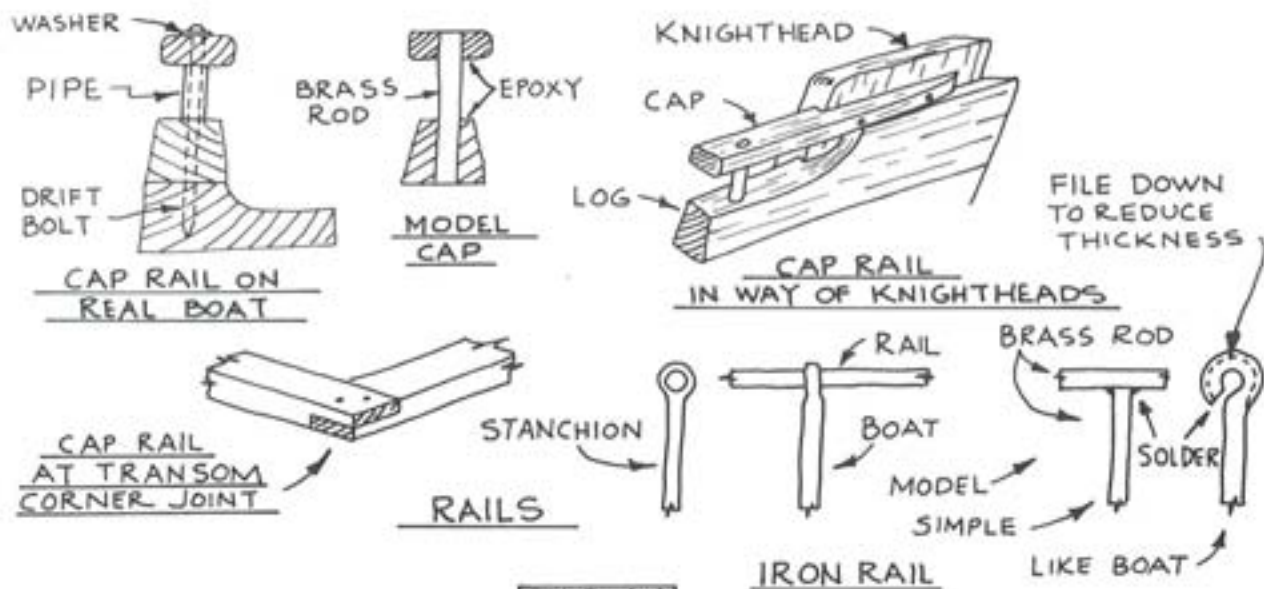

FIG41
**Cap rail and iron rail** — The cap rail can be installed now. The real boat uses iron pipes for cap rail stanchions through which a drift bolt is driven. For the model, 1/32-inch brass rod can be used. The iron rail is made up of brass rod and painted. See Figure 41.